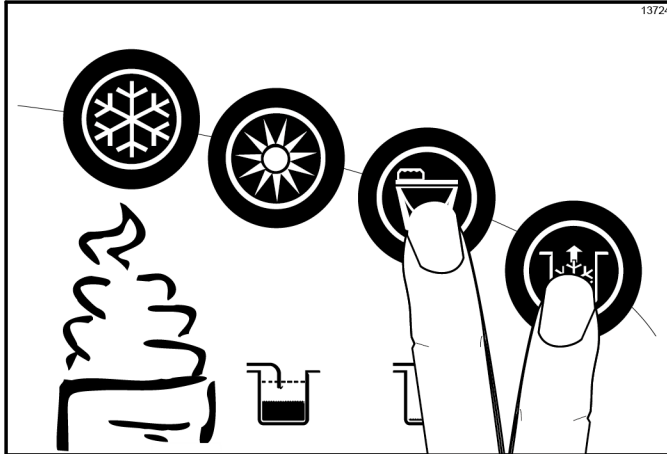

Figure 6-55
1. With a pail beneath the door spout, open the draw valve. Press the Wash and Pump keys  . (See Figure 6-55.)